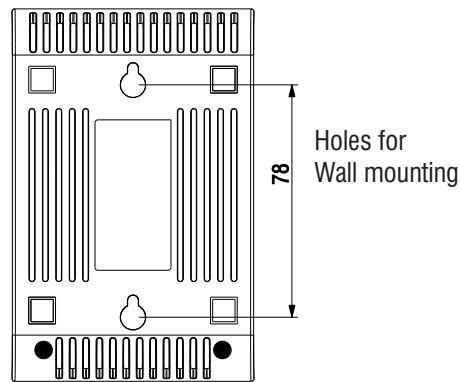

Figure 2
- The distance between the holes is shown in the Figure2.